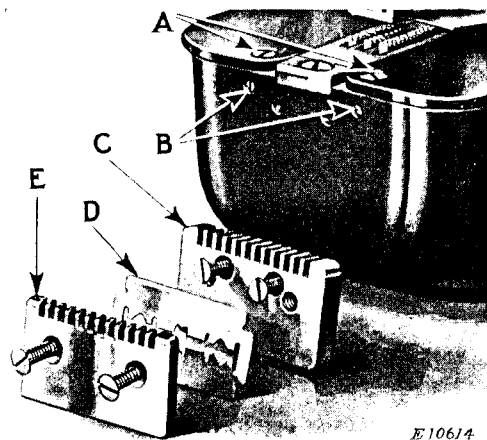

Fig. 25. Thread Cutter Disassembled
Should the thread cutter blade (D, Fig. 25) become dull, remove the two screws in the clamp plate (E, Fig. 25) and turn the blade so that the other edge can be used.
If the hook cover plates open too freely, remove the two screws in the thread cutter clamp plate (E, Fig. 25), then remove the two screws which hold the thread cutter block (C, Fig. 25) to the bed of the machine. Loosen the two set screws (B, Fig. 25) and turn the screws (A, Fig. 25) to increase or decrease the friction on the hook cover plates. When the desired friction is obtained, tighten the set screws (B).